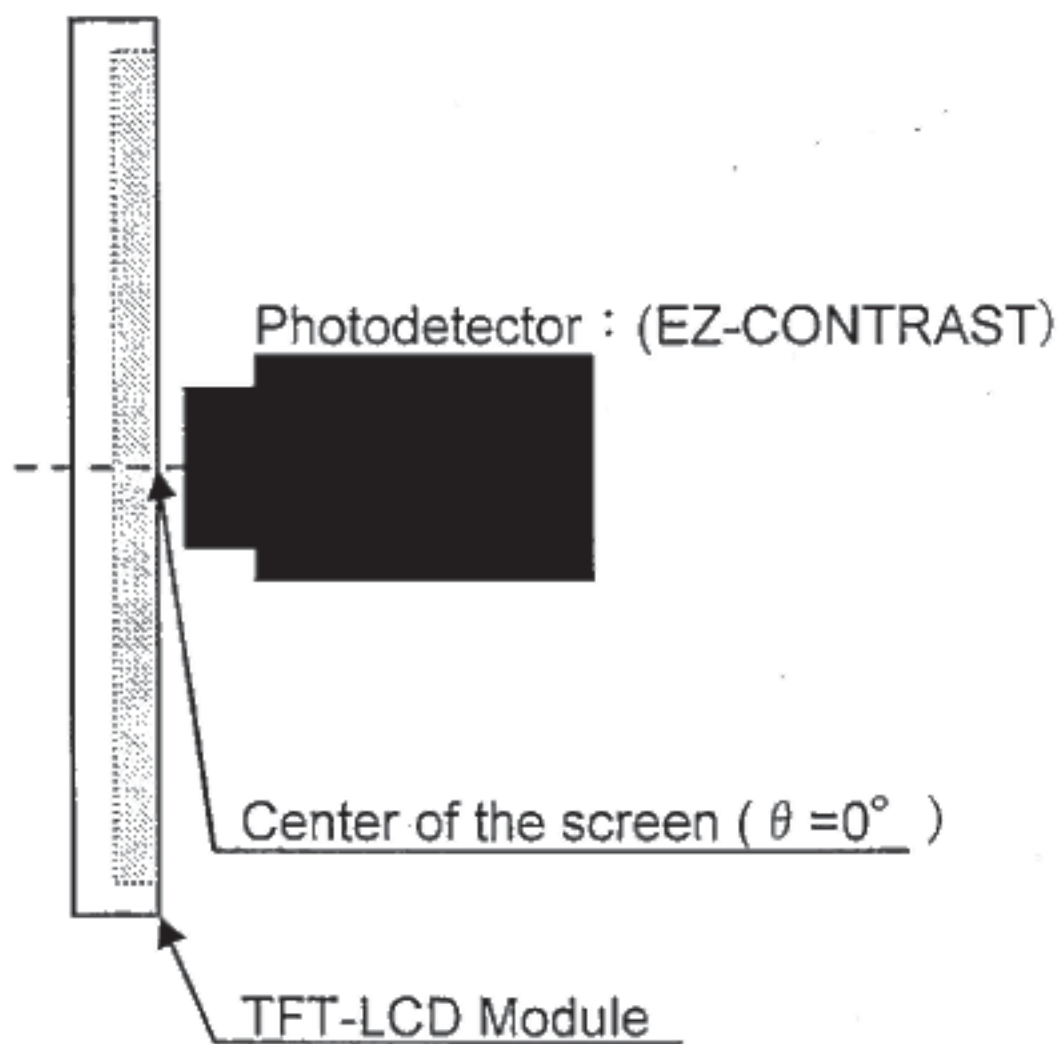

Fig.9-1 Measuring setup for Viewing angle and Contrast
* The optical characteristics measurements are operated under a stable luminescence (I_{LED} = 20mA) and a dark condition. (Refer to Fig.9-1,2)